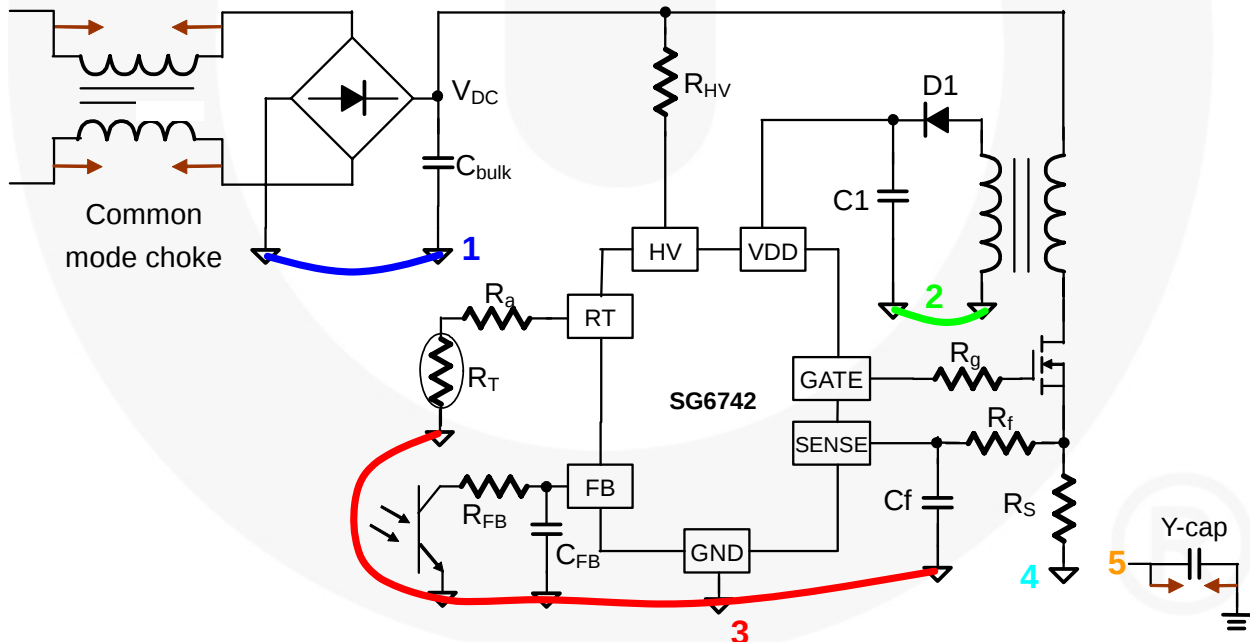

Figure 14. Layout Considerations
- The high-frequency current loop is found in the loop $C_{bulk} - \text{Transformer} - \text{MOSFET} - R_s - C_{bulk}$ in Figure 14. The area enclosed by this current loop should be as small as possible. Keep the traces (especially 4→1) short, direct, and wide. High-voltage drain traces related to the MOSFET and RCD snubber should be kept far from control circuits to prevent unnecessary interference. If a heatsink is used for the MOSFET, grounding the heatsink is recommended.
- As indicated by 3 in Figure 14, the control circuits' ground should be connected first, then to other circuitry.
- As indicated by 2 in Figure 14, the area enclosed by the **transformer auxiliary winding, D_1 , and C_1** should also be kept small. Place C_1 close to the SG6742 for good decoupling.